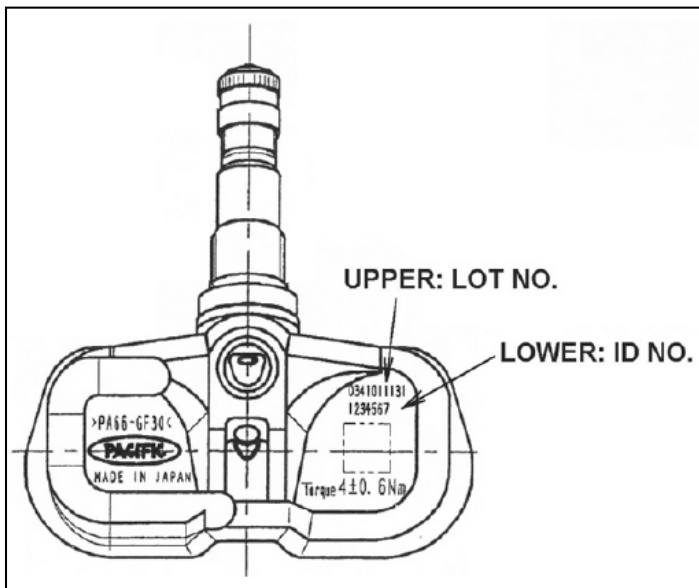

Figure 6a
- e. Insert the tire pressure monitor valve sub-assembly into the valve installation hole from the inside of the rim and bring the valve stem to the outside. Insert the tire pressure monitor valve sub-assembly so that "Manufactures" mark is visible. See Figure 6a and 6b.